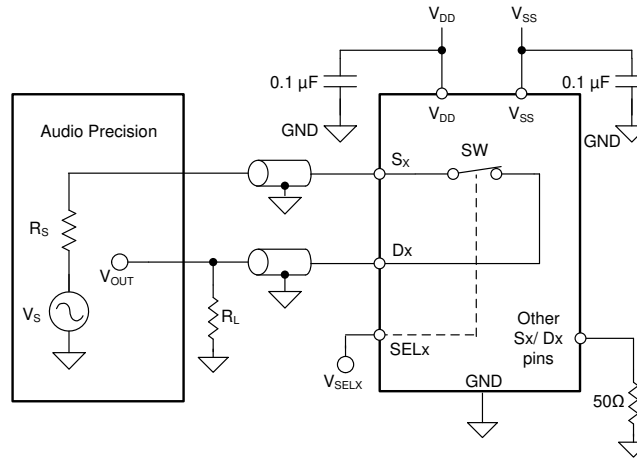

**Figure 8-8. Bandwidth Measurement Setup**
Bandwidth (BW) is defined as the range of frequencies that are attenuated by  $< 3\ \text{dB}$  when the input is applied to the source pin ( $S_x$ ) of an on-channel, and the output is measured at the drain pin ( $D_x$ ). Figure 8-8 and Equation 3 shows the setup used to measure bandwidth of the switch.